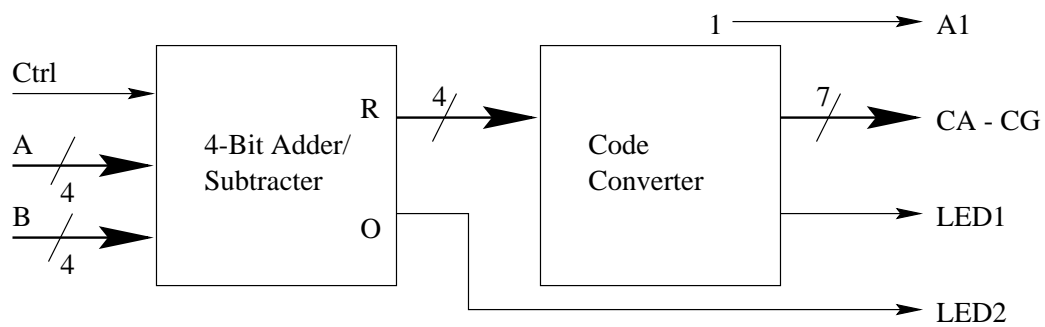

Figure 13: Adder/Subtractor and 7-Segment Decoder Block Diagram
3. Combine the two circuits as shown in Figure 13, and show the Addition/Subtraction on the 7 segment display. For simplicity use the LED1 as the minus sign and use LED2 as the overflow indicator. Implement and pass off the entire design.